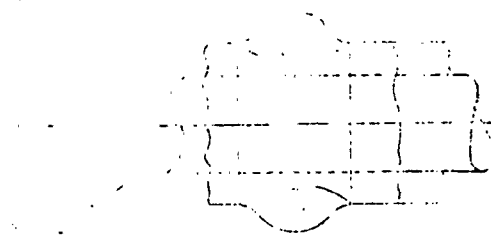

FIGURE 3
6.2 The pipe insulation shall be wrapped with Rosin-sized Paper, Code 703, cut to fit, drawn tight, and held in place with layers of Canvas, Code 704, 1/2 inch thick. Canvas, Code 704, shall be drawn snugly over the Rosin-sized Paper. The canvas shall have laps that are 2 inches minimum. The seams shall be removed as the canvas is applied. The canvas laps shall be bonded with a field-applied, Code 702. The canvas shall be tightly sealed and free of wrinkles and loose edges. The length of laps shall be 1 foot on the top or bottom whichever is least of the two. See Figures 3 and 4.